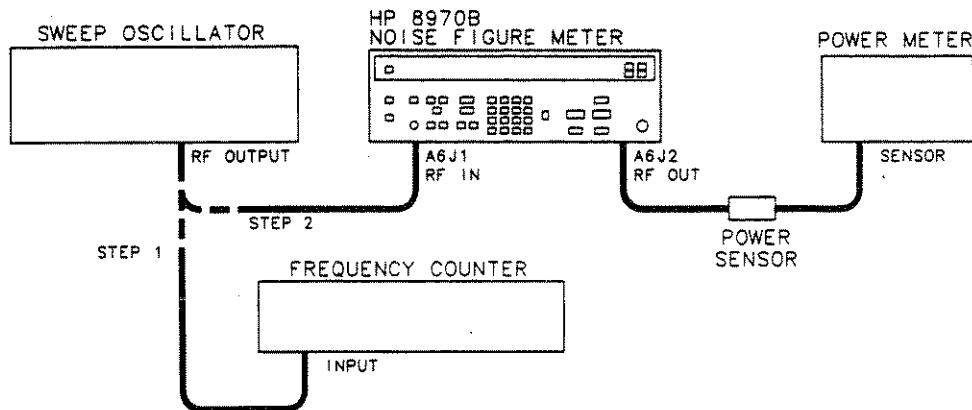

Figure 5-10. 20 dB Input Amplifier Gain Adjustment Setup
2. Connect the sweep oscillator to the Noise Figure Meter A6J1, RF IN. Connect the power sensor to A6J2, RF OUT. (See Figure 5-10.)